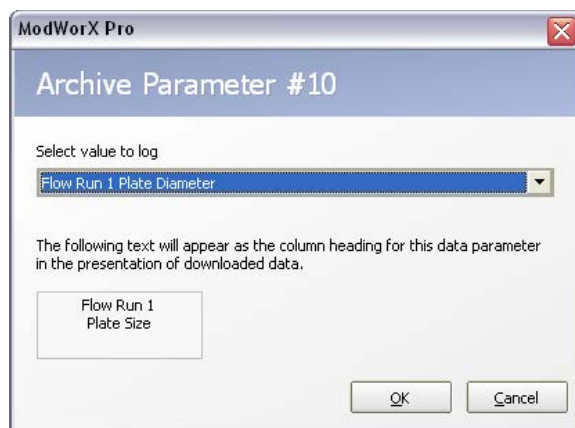

Figure 3.23
1. Click **Add Parameter**. An Archive Parameter dialog will appear (Figure 3.23).